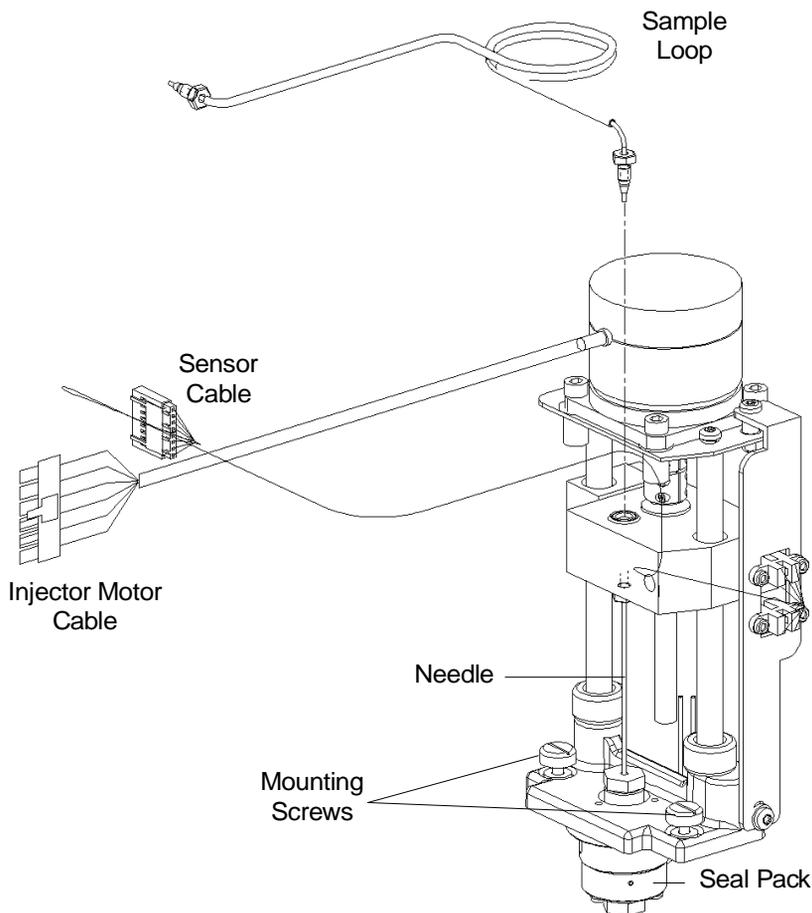

Figure 7-13 Removing the Injector
3. Disconnect the injector motor and sensor cables from the circuit board (Figure 7-13).
4. Use the long flat-blade screwdriver to loosen the two mounting screws securing the injector to the floor of the sample compartment (Figure 7-13).
5. Disconnect the sample loop from the injector (Figure 7-13).
6. Attach the injector to the floor of the compartment by tightening the two mounting screws (Figure 7-13).
7. Connect the injector motor and sensor cables from the circuit board (Figure 7-13).